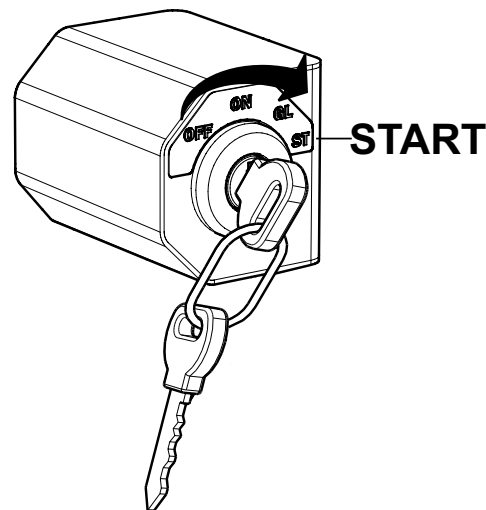

Figure 10. Ignition Switch (Start Position)
2. Place the ignition key in the start position (Figure 10). Release key when engine starts.